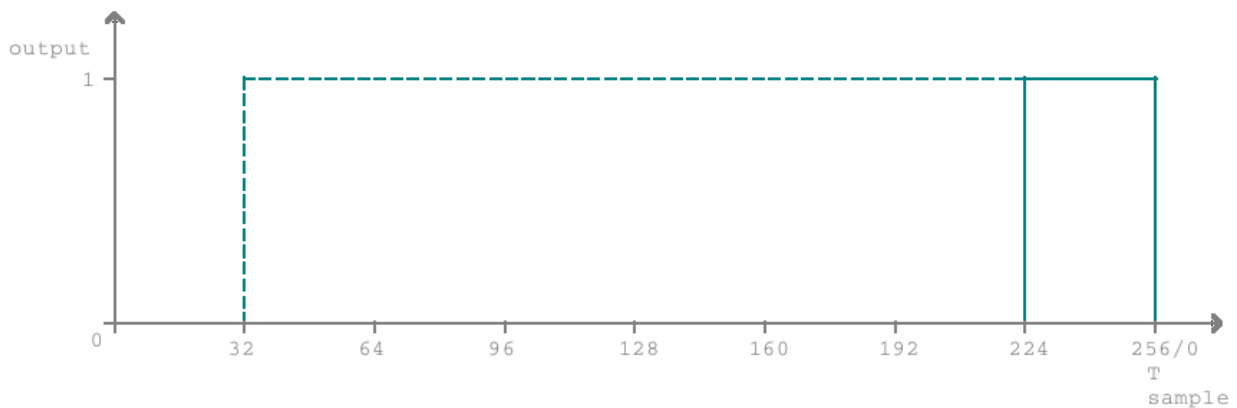

Figure 6: PWM output diagram
Figure 6 depicts two examples, one for the value 32d/20h (dashed line) and another for value 224d/E0h (continuous line). The signal period ends (at T) where the sample count reaches 256d (or 100h), whereupon the cycle starts all over again.
- 3) The CTC must be set to request an interrupt at a constant rate every x milli- or nanoseconds. Each requests represents a time slot wherein a sample counter gets incremented (see Figure 6 on page 38).